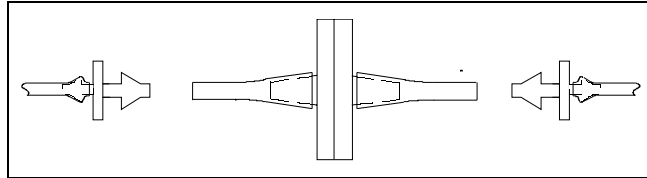

FIGURE 5-6 Filter Removal
1. Remove the top cover. Remove the existing filter and silicon tubing from the purge line barb fittings (located near the Purge assembly), and discard the filter (See Figure 5-6).